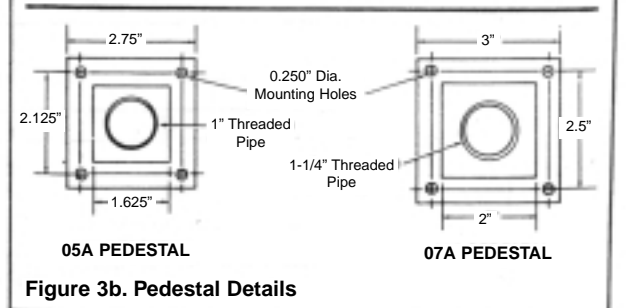

Figure 3b. Pedestal Details
6. Drill holes in floor (Fig. 3b) and install threaded inserts (or equivalent for 1/4" mounting bolts (inserts and bolts supplied by installer.)